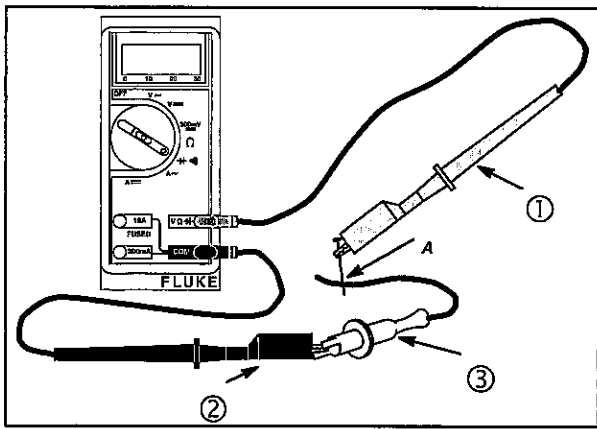

Fig. 14
1. Insert RED test lead (1) into **VΩ** receptacle in meter.
2. Insert BLACK test lead (2) into **COM** receptacle in meter.
4. Attach RED test lead clip to point A and BLACK test lead clip to the stator output lead (3), Fig. 14. (It may be necessary to pierce the wire with a pin as shown.)